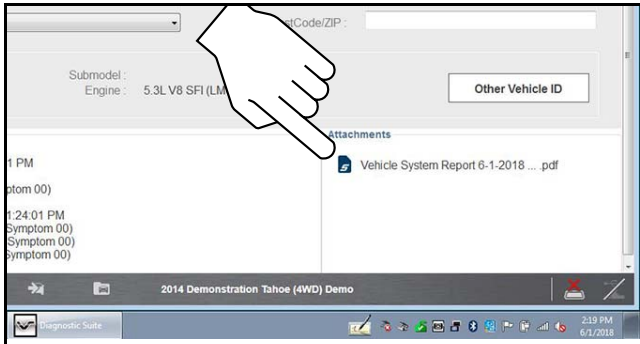

Figure 4-21
3. Select and open the Vehicle System Report PDF file from the attachments box (Figure 4-21).